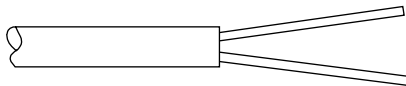

Figure 6: Stripping the Outer Insulation from the Twisted Pair
2. Strip the outer insulation from the twisted pairs about one inch from the end as shown in Figure 6.